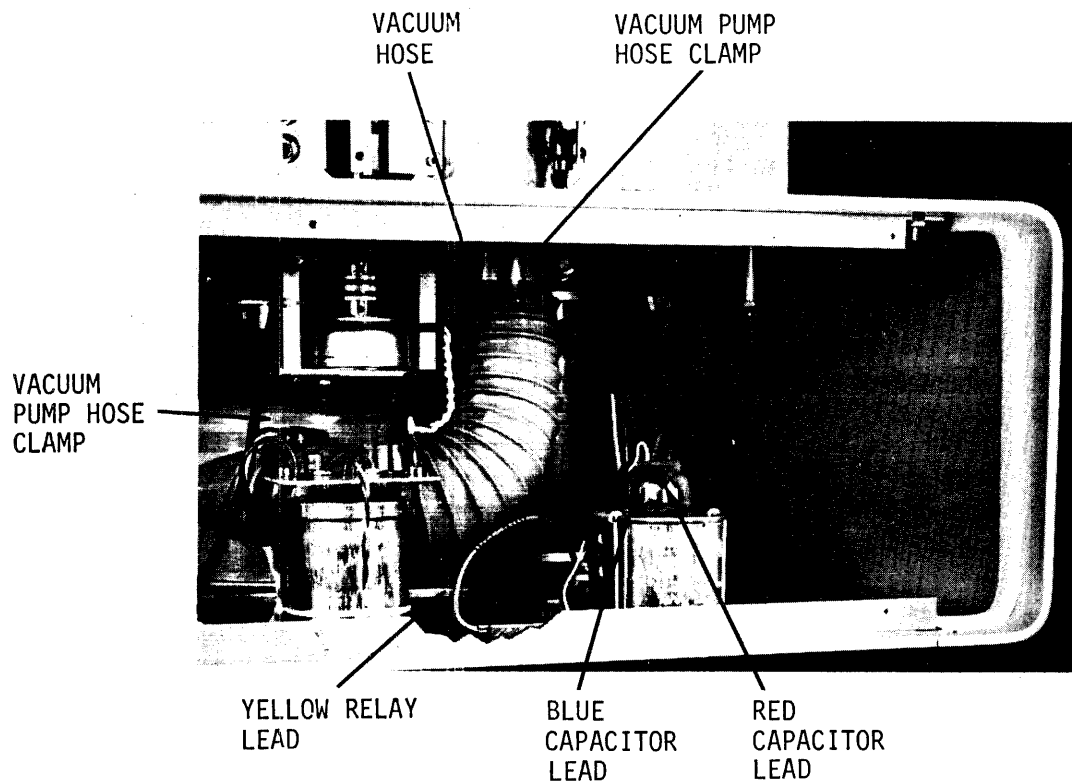

Figure 6-16. Disconnecting Vacuum Blower Motor Assembly
- d. Remove the rubber hood from the motor run capacitor and disconnect the red and blue clip leads, figure 6-16.
- e. Remove the yellow clip lead from the solid state relay, figure 6-16.
- f. Loosen the blower hose clamp on the side of the pump and remove the hose from the pump, figure 6-16.